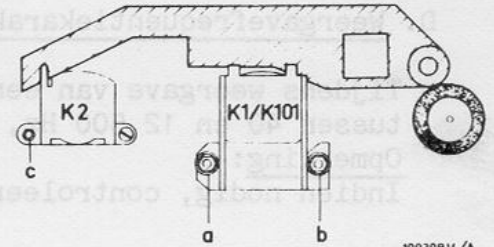

Fig. 1
A. Hoogte-instelling (fig. 1.)
B. Azimuth-instelling (fig. 1.)